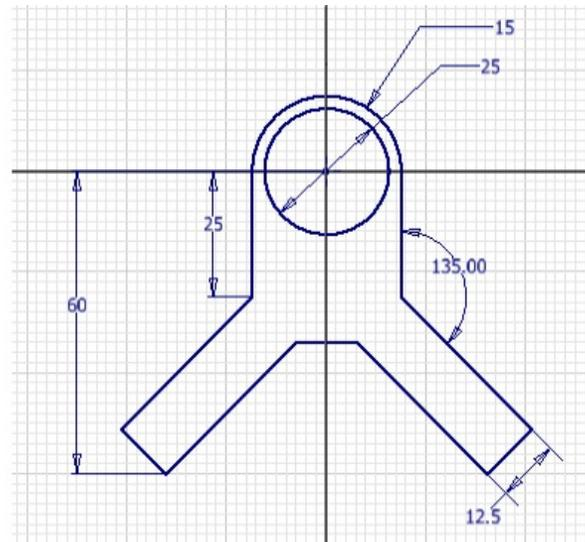

Figure 3-66 The final dimensioned sketch for Tutorial 4
1. Choose **Dimension** from the **Constrain** panel of the **Sketch** tab and select the circle. Place the diameter dimension below the arc dimension. Enter **25** in the **Edit Dimension** edit box and then press ENTER. This completes the sketch for Tutorial 4. The final dimensioned sketch is shown in Figure 3-66.